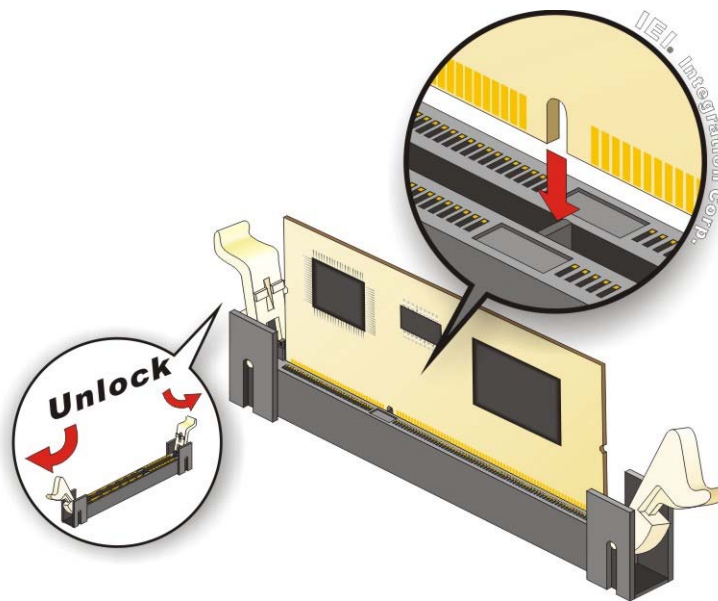

Figure 4-7: iRIS Module Installation
To install the iRIS-2400 module, please follow the steps below and refer to **Figure 4-7**.
- Step 2:** **Open the socket handles.** Open the two handles outwards as far as they can. See **Figure 4-7**.
- Step 3:** **Align the iRIS-2400 module with the socket.** Align the iRIS-2400 module so the notch on the module lines up with the notch on the socket. See **Figure 4-7**.
- Step 4:** **Insert the iRIS-2400 module.** Once aligned, press down until the iRIS-2400 module is properly seated. Clip the two handles into place. See **Figure 4-7**.